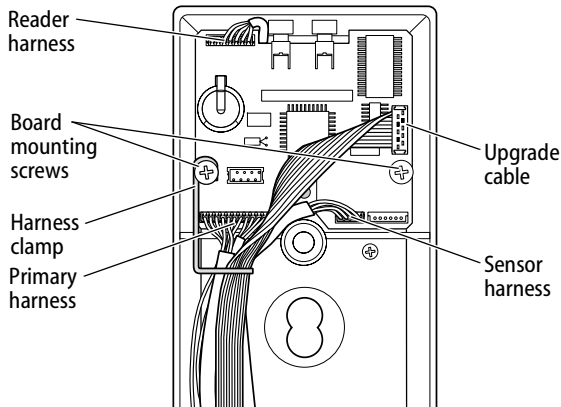

Figure 3 Disconnecting the wire harnesses
- 1 Disconnect the primary harness from the electronics board (Figure 3).